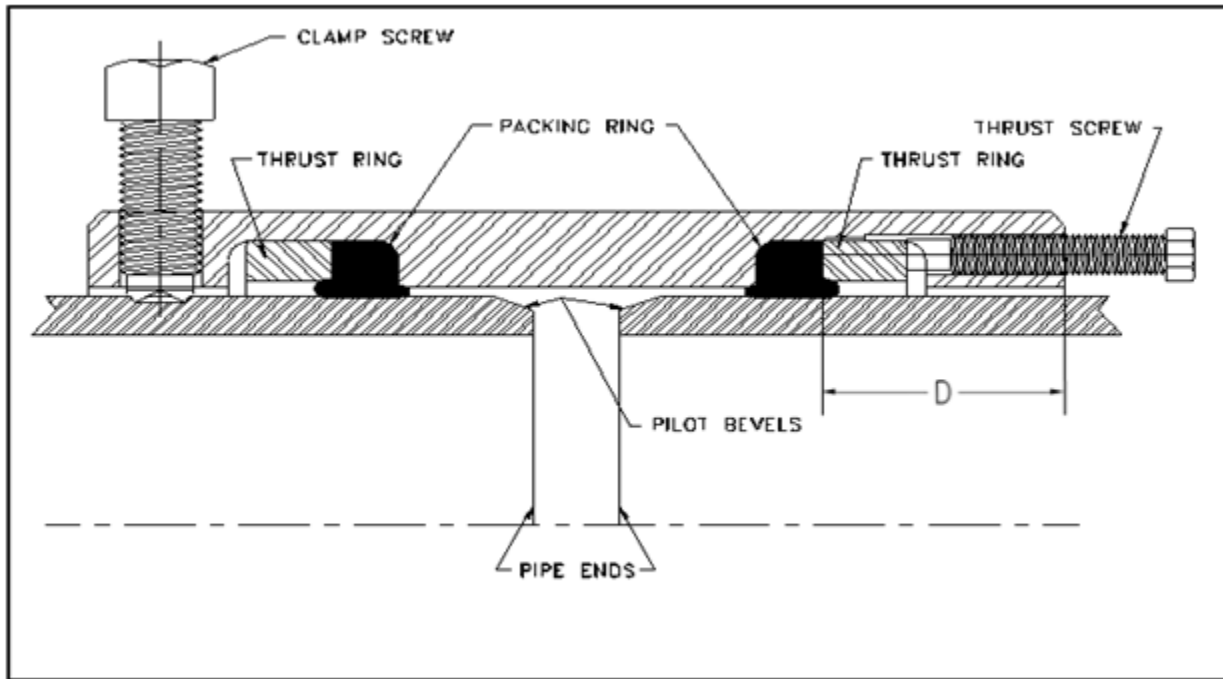

Figure 1
2. For badly misaligned or out-of-round pipe, it is helpful to grind a pilot bevels with a generous taper on the pipe. This will eliminate the risk of damage to the seals while slipping the PLIDCO Weld+Ends over the end of the pipe. (See Figure 1).
1. Measure and record dimension "D", as shown in Figure 1. This will be needed later if the PLIDCO Weld+Ends is welded to the pipe.